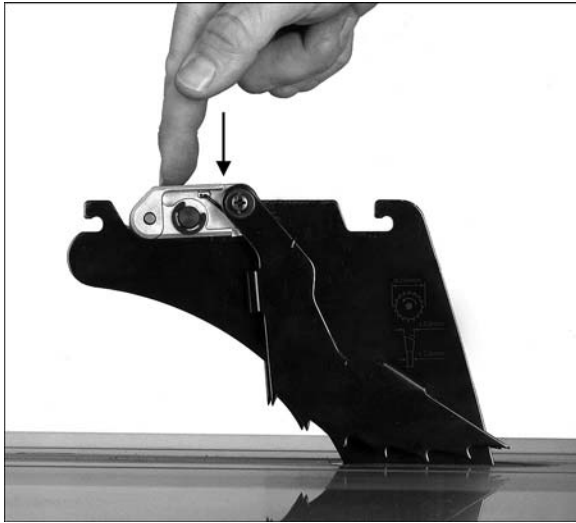

Figure 6-11
2. Pivot head and push it downward (Figure 6-11) until there is an audible click. *Make sure you hear the click to verify that pawl assembly is secure.*